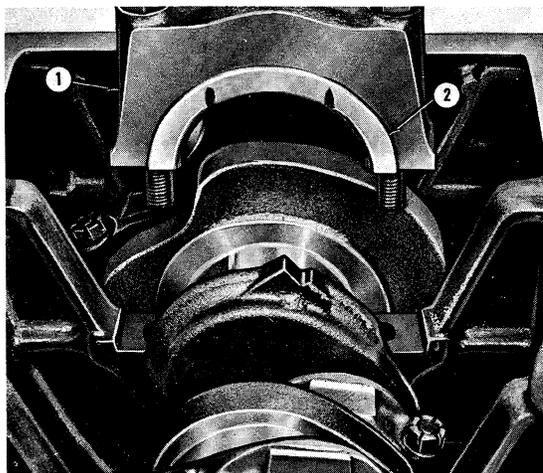

Figure 43
- 7. Install the upper thrust bearing and all bearing caps except the rear. Then install the thrust bearing cap and liner with the bolts finger tight, Figure 43. Pry the crankshaft forward against the upper thrust bearing and pry the bearing cap